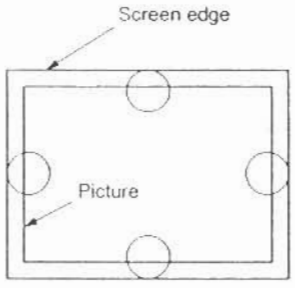

Fig. 2
Adjustment 7. Adjust the "DAC 2 V-POSI" in the TEST 1.1.8 mode so that the lowest line of the picture is barely seen at the bottom of the screen. 8. Adjust the "DAC 1 H-POSI" in the TEST 1.1.8 mode so that the picture is almost at the center without the corners folded. [Note] Add 1 or 2 to the "H-POSI" value when right or left squares begin to be closed during the step 8. 9. Adjust the "DAC 5 V-C-LIN" and the "DAC 6 V-S-LIN" in the TEST 1.1.8 mode so that the circles at the four corners are a perfect circle. 10. Turn the Deflection Yoke (G) so that the Line A (across the center of the picture) is horizontal. [Note] Handle the fixed screw on the Deflection Yoke(G) quickly so as not to change the magnetism. 11. Turn the Centering Magnets on the Deflection Yoke (G) so that the center mark of the picture (intersection of the Line A and the Line B) is at the screen center. 12. Perform the "DAC 5V-C-LIN" adjustment and the step 11 alternately so that the length of C and D in Fig. 2 are equal. 13. Press the "ENTER" button to save the data. 14. Press the "TEST" button to terminate the TEST 1.1.8 mode. 15. Produce a Red and a Blue pictures on the screen. Turn the Centering Magnets and the Deflection Yoke(R) and (B) so that each picture center and Line A matches to that of the Green picture. [Note] Shifted amount should be less than the width of the Line A or the Line B. [Note] The length difference of C and D should be less than 8mm, and that of E and F should be less than 10mm. The screen center is at 453mm from the top and 570mm from the right and left edges.